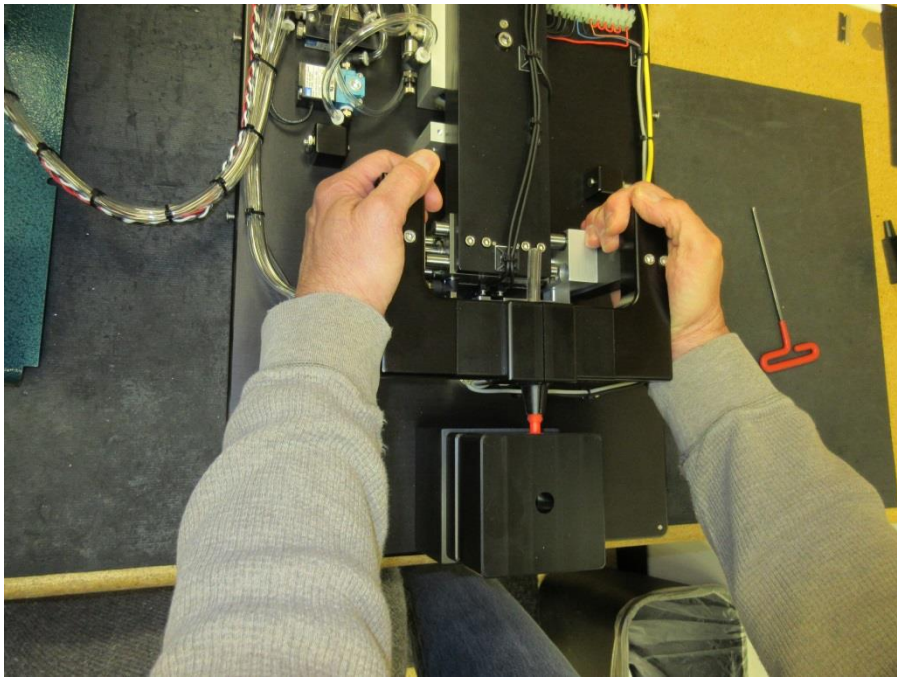

Figure 30 – Pulling the tubing onto the fitting in the nest
- Align the tubing with the fitting located in the nest, and pull the tubing forward onto the fitting. (Figure 30)